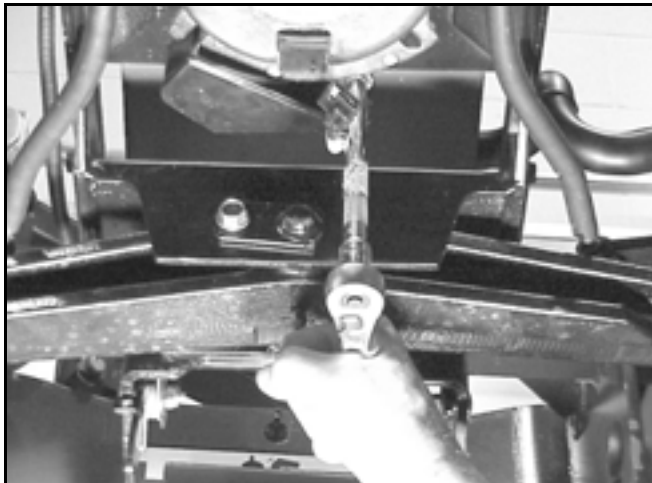

Figure 160
12. Turn the electric PTO clutch housing and align the PTO stop bracket in the slot of the clutch housing. Install the RH bolt and lock washer in the PTO stop bracket and tighten. Tighten the LH bolt in the PTO stop bracket (Figure 160).